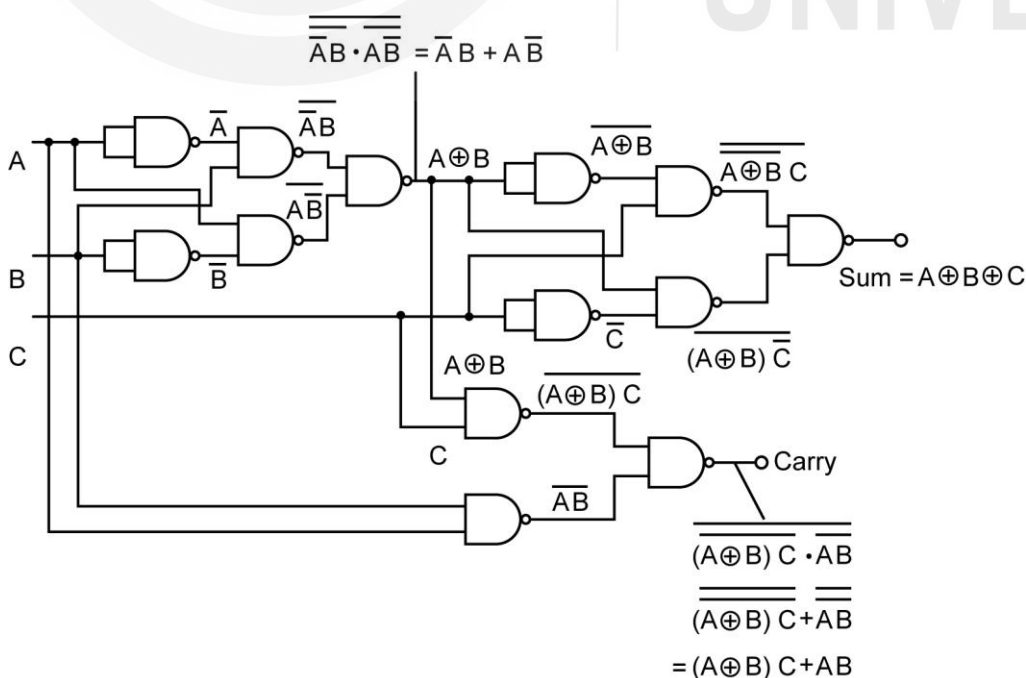

Fig. 3.4: NAND gate circuit of a full adder.
For building the full adder in total you will require 13 NAND gates that is five NAND gate IC 7400. In Fig. 3.4 the circuit of a full adder using only NAND gates is shown to implement the expressions given by Eq.(3.1) and (3.2).
3. Make the connections of the NAND gates as shown in Fig 3.4.